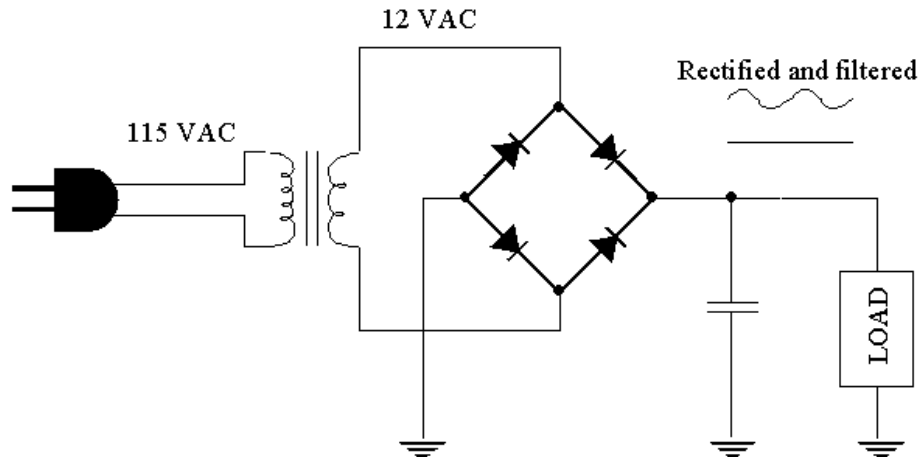

Figure 4.4.9: Filtering the voltage source
Step 3: filtering. We have a very poor DC power source because the voltage fluctuations are huge. We need to reduce these fluctuations by adding a capacitor to the output, as Figure 4.4.9 shows. Try adding a capacitor on the order of $10\ \mu\text{F}$, and see how that changes the output. Double the capacitance and note differences in the *ripple*. Each time the bridge voltage rises, the capacitor is charged. When the bridge voltage falls, the capacitor discharges, delivering current to the load and thus compensates for the lack of bridge current. The larger the capacitor, the more smoothing.